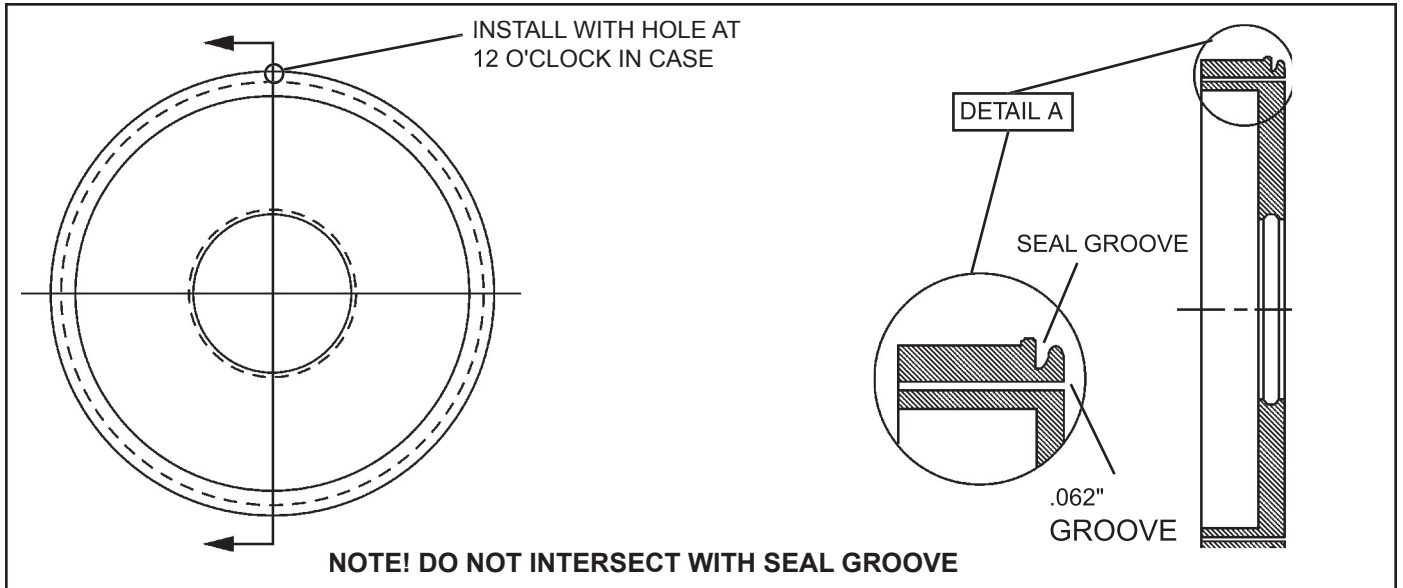

Figure 1. Piston Reverse (Drilled for Brake)
2. Drill a .062" diameter hole through the reverse apply piston, inside of the inside diameter of the outer piston seal. See Figure 1. This hole should be positioned at the top of the transmission case when the piston is reinstalled.